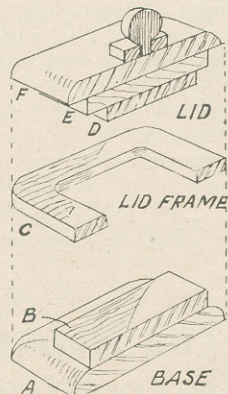
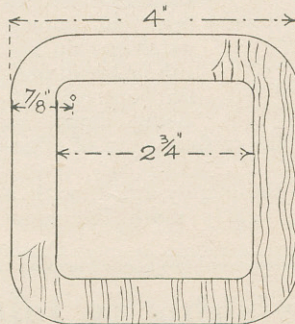

Fig. 2—Cut-away view of cross parts
Fig. 3—The lid frame
The base is formed of two pieces A and B in Fig. 2, A is 4 ins. square and  $\frac{3}{8}$  in. thick and has all its top corners rounded off with rasp, file and glasspaper. Piece B is  $3\frac{1}{4}$  ins. square and is also  $\frac{3}{8}$  in. thick with all its edges cut square. The two pieces are glued together with equal margin all round.
The lid frame (C) is 4 ins. square and  $\frac{1}{4}$  in. thick, and the dimensions given in Fig. 3 help in drawing out the shape. The piece cut from the middle— $2\frac{3}{4}$  ins. square is later glued to the underside of the lid sections as D in Fig. 2. The lid frame is fitted and glued to the top of the box portion, and the rounded corners glasspapered.